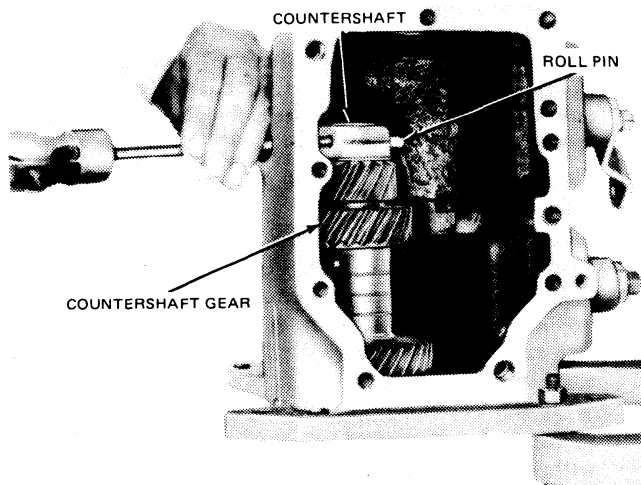

FIG. 13 Removing Countershaft Roll Pin
6. Remove the lubricant filler plug from the right side of the case. Working through the plug opening, drive the roll pin out of the case and countershaft with 1/4-inch punch (Fig. 13).